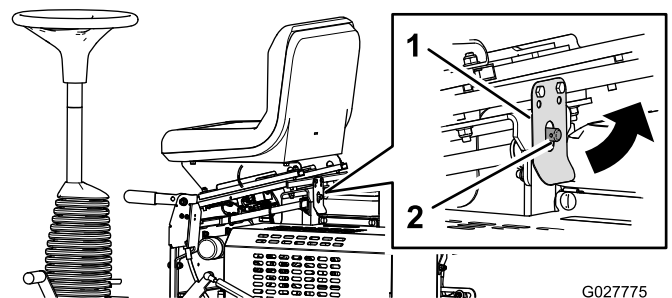

Figure 20
2. Pull back on the seat latch, and tip the seat forward (Figure 20).